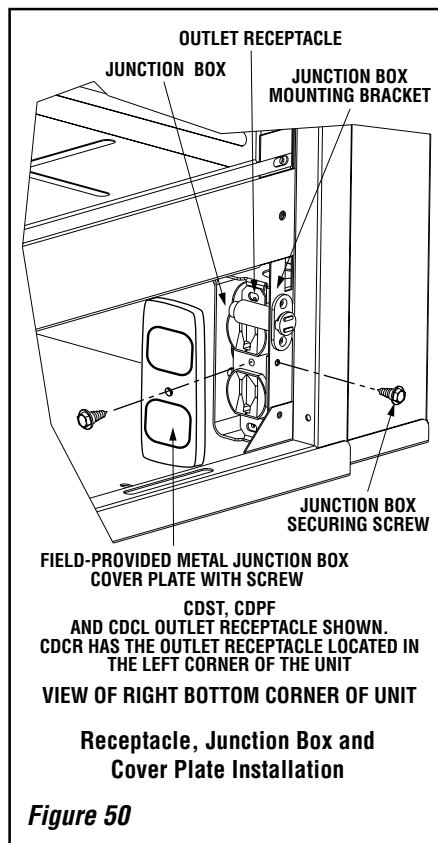

Figure 50
3. Remove the junction box/outlet receptacle assembly by removing the securing screw at the front right corner of the unit. See **Figure 50**. (The left and right designations used here are reversed in CDCR applications.)